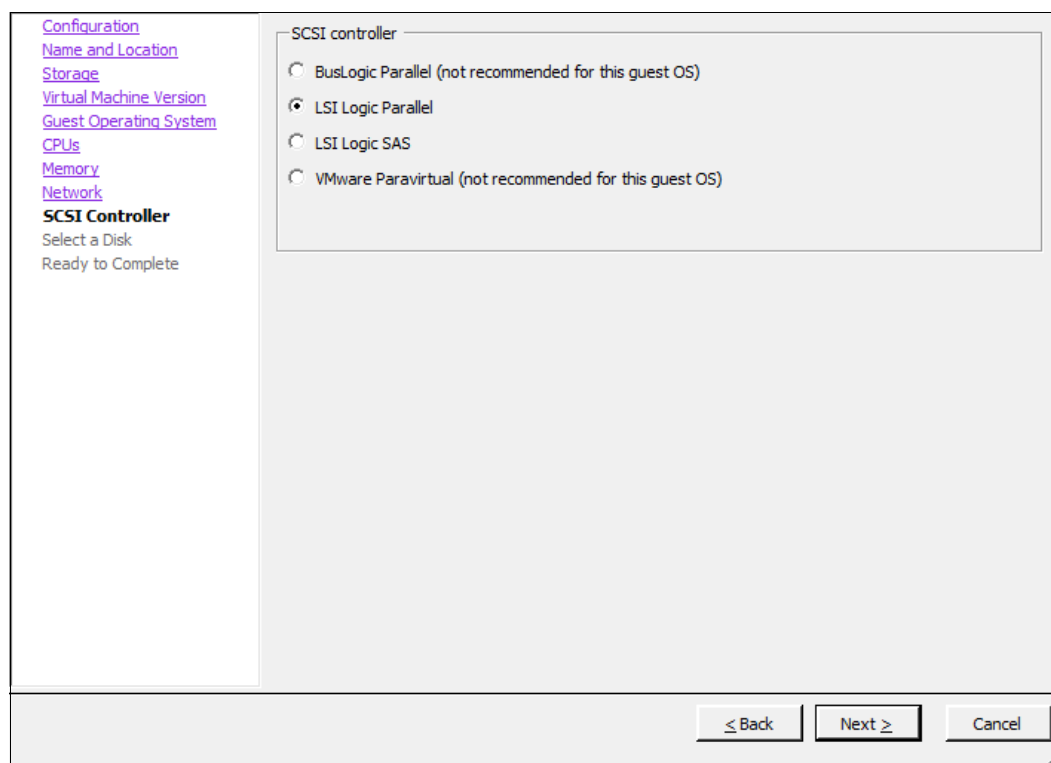

Figure 3-12 SCSI Controller panel
10. In the SCSI Controller panel (Figure 3-12), select the appropriate controller for your VM, and click **Next**.